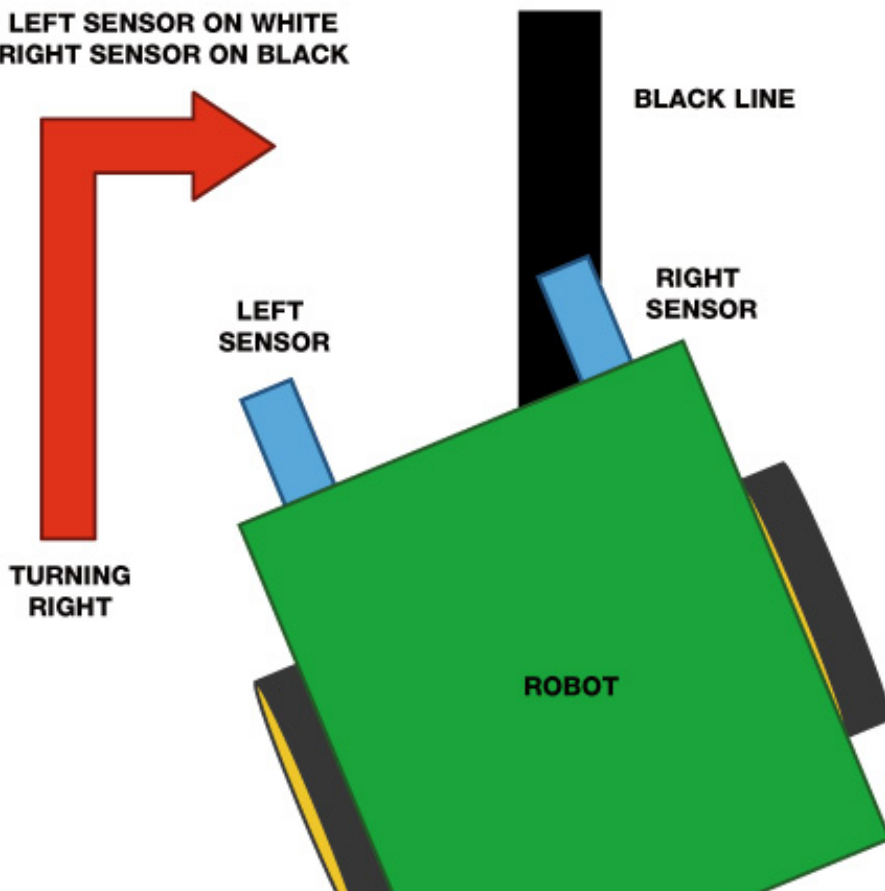

FIGURE 7-7 The robot turns left or right if one of the sensors detects the black line.
- If the left sensor doesn't receive a reflected signal but the right sensor does, this must mean that the left sensor detects the line. This indicates that the robot must be veering right, so it should turn left to correct itself, as in Figure 7-7.
- If the right sensor detects the line but the left sensor doesn't, the robot should correct itself by turning right, as shown at the bottom of Figure 7-7.